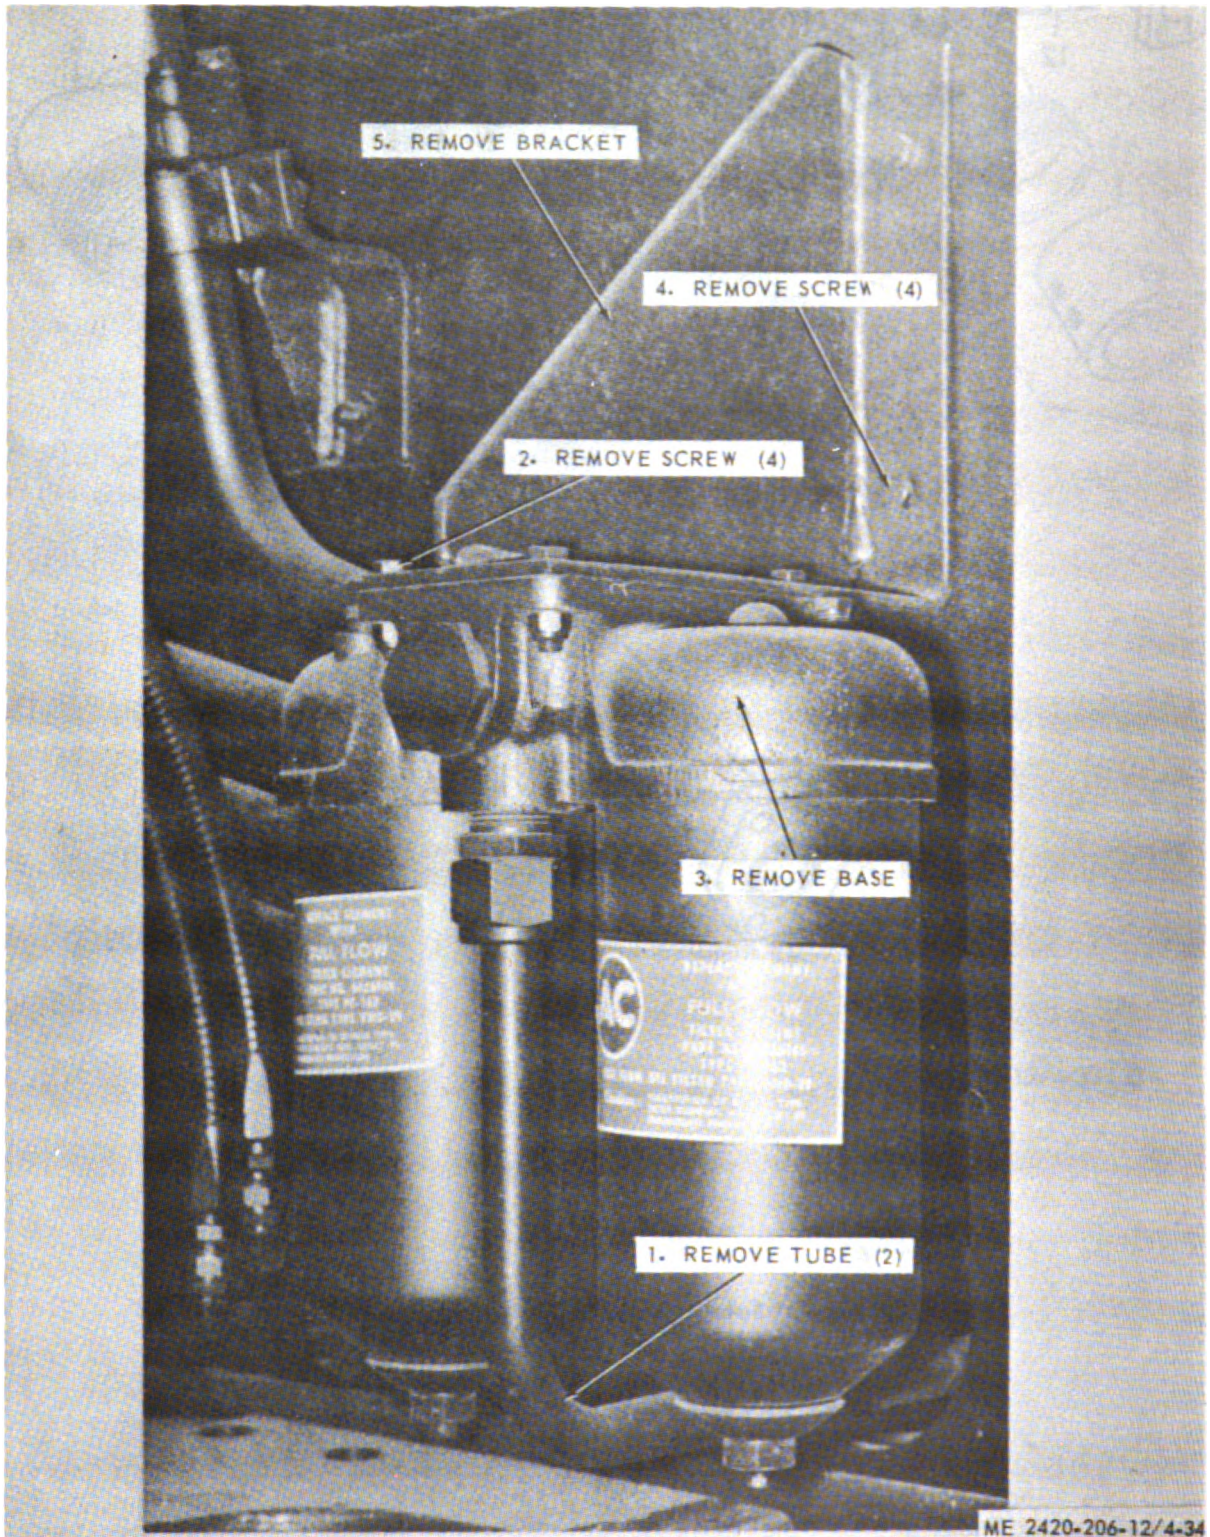

Figure 4-34. Hydraulic filter base, removal and installation.
- (1) Remove element (para 3-7).
- (2) Remove hydraulic filter base, figure 4-34.